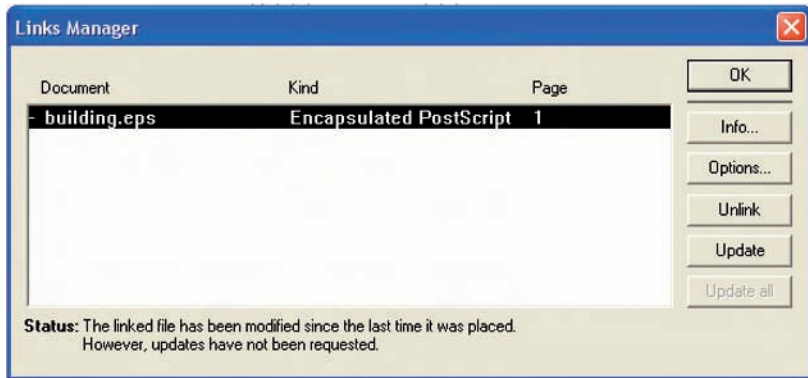

Fig. 10.6 The **Links Manager** dialog of PageMaker
8. Go back into **PageMaker** and *click* **Links Manager . . .** in the **File** drop-down menu. The **Links Manager** dialog appears (Fig. 10.6). Against the name of the **building.eps** file name is a dash and a note at the bottom of the dialog explaining that changes have taken place in